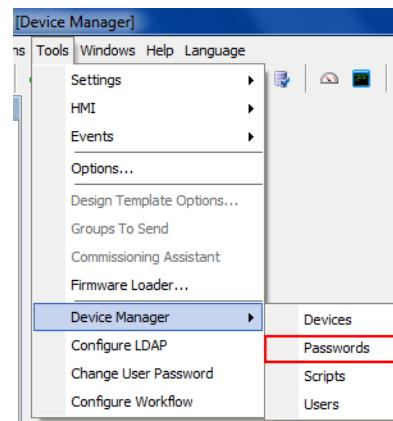

Figure 141 Password Manager
- Step 5. Select **Tools > Device Manager > Passwords**, as shown in *Figure 141*.